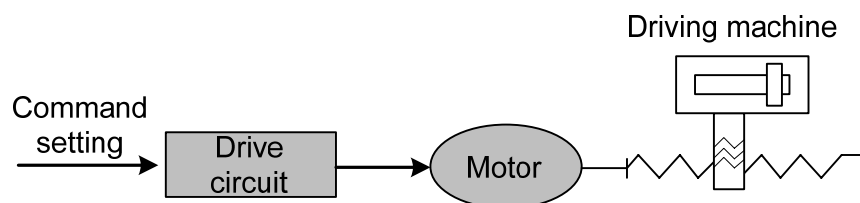

Figure 1-3 Open-loop control
- **Closed-loop control:** The actual value of the controlled variable does not affect the output of the controller if the control system is not provided with a feedback device. For a stepper motor drive, for example, the rotor of a stepper motor shall rotate with the change in the phase sequence of its output current. Since normally a stepper motor is not fitted with a speed or position feedback device, excessive load or acceleration/deceleration may prevent the motor rotor from accurately rotation with the change in the phase sequence of current, thereby causing the so-called “out-of-step”. Open-loop control is as shown in Figure 1-3.